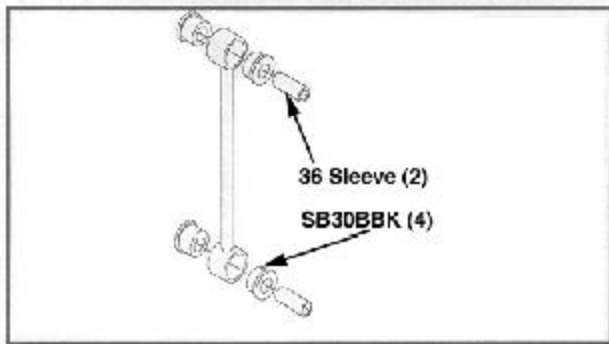

Fig. 6
- c. Install the TM rear coil springs (233) into the OE springmounts.
1. Assemble the links as shown in Fig. 6.
- a. Install (2) SB30BBK bushings into each end.
- b. Install (1) #36 sleeve into each end.